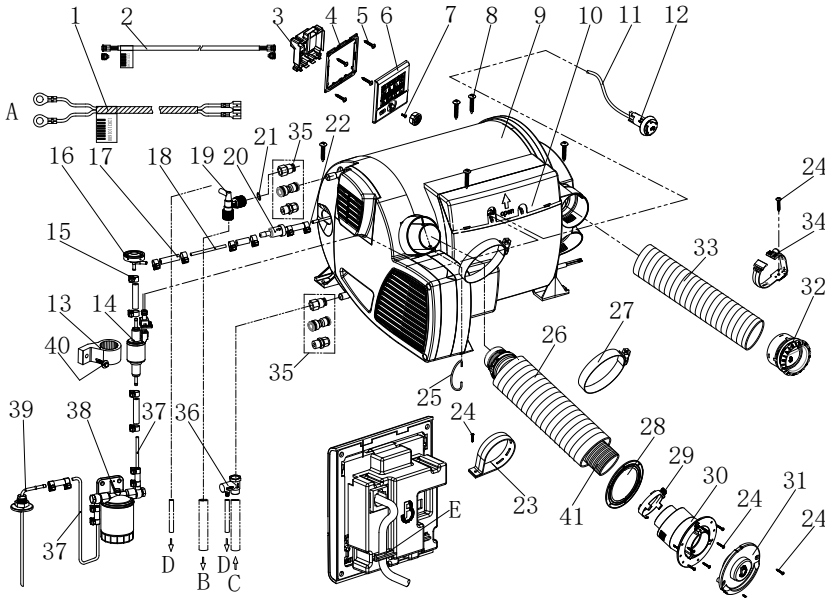

Figure 3
Heater installation Figure 3.
- ★ The cross section of the heating pipe shall not be reduced due to pipe connection or the like. That is to say, the number of outlets of the warm air duct (Fig. 3_32) shall not be less than four to ensure that more than four warm air outlets are open.